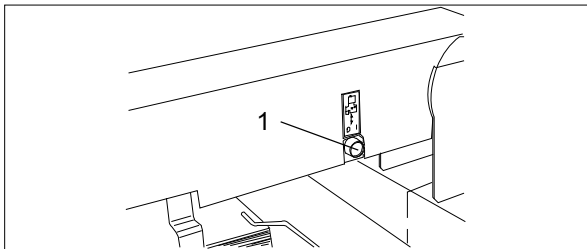

Fig. 29 Automatic height setting mechanism
4. Switch off the automatic height setting mechanism by pushing button (Fig. 29/1) (the white lamp goes out).